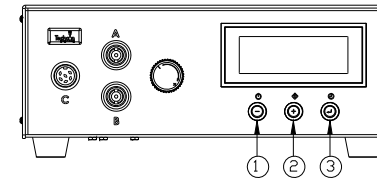

Figure 9.0
5.5 CYCLE COUNTER (Refer to Figure 9.0)
5.6 TO CHANGE PRESSURE UNIT DISPLAY (Refer to Figure 9.0)
1. Press and hold Set button (3) for two seconds to enter setup screen.
3. Press both Set button (3) and (+) button simultaneously to change unit display to “bar”. Repeat this step to change unit display back to “psi”
4. Press and hold Set button (3) for two seconds to exit setup screen.
5.7 LOW PRESSURE SETTING (Refer to Figure 9.0)